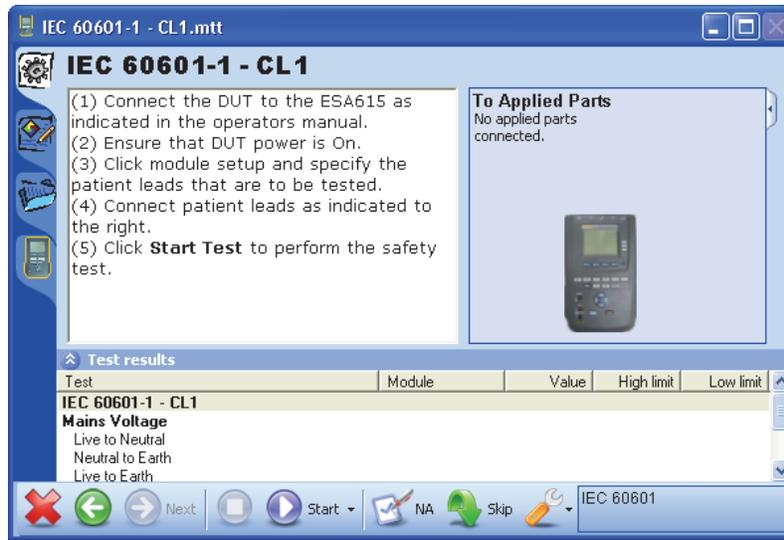

Figure 3-6. IEC 60601-1 Test Guide
3. Click the **Next** (→) toolbar button to go to the first Test Guide window shown in Figure 3-6.